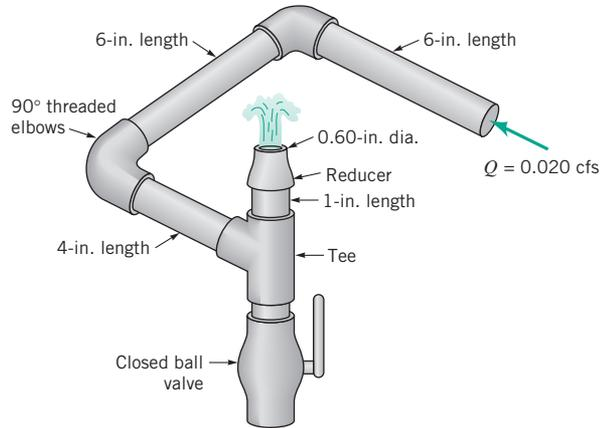

FIGURE P8.51
**8.51** Water flows steadily through the 0.75-in.-diameter galvanized iron pipe system shown in Video V8.13 and Fig. P8.51 at a rate of 0.020 cfs. Your boss suggests that friction losses in the straight pipe sections are negligible compared to losses in the threaded elbows and fittings of the system. Do you agree or disagree with your boss? Support your answer with appropriate calculations.